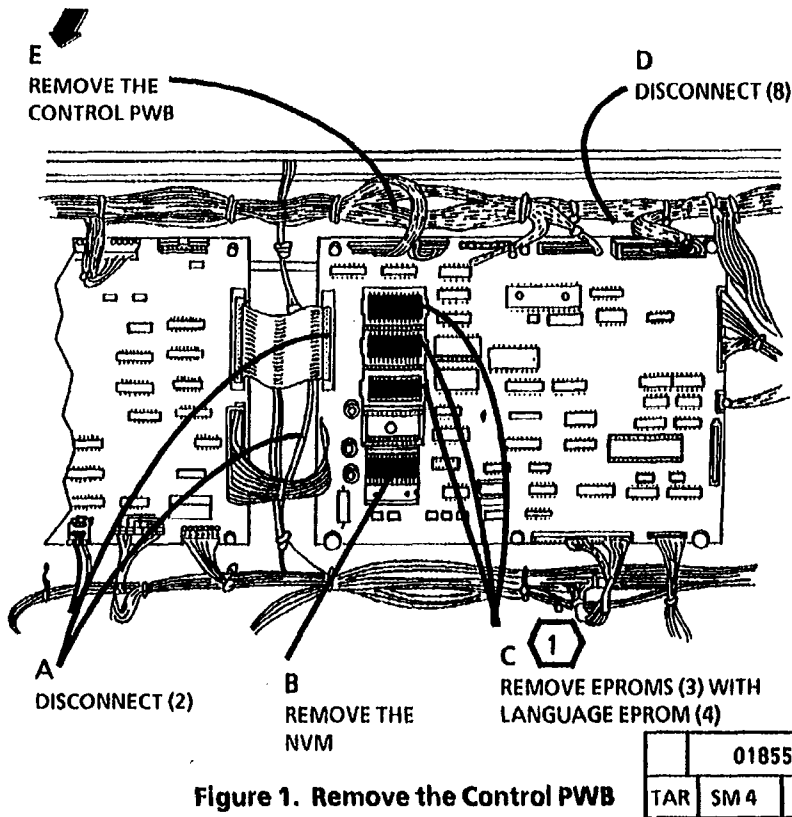

Figure 1. Remove the Control PWB
3. (Figure 1): Remove the Control PWB.